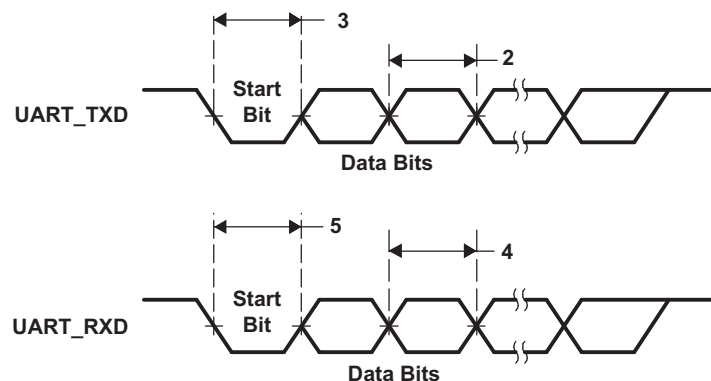

Figure 6-28. UART Transmit/Receive Timing
Table 6-31. Timing Requirements for UART Receive⁽¹⁾⁽²⁾ (see Figure 6-28)
(1) U = UART baud time = 1/programmed baud rate.
(2) These parametric values are measured at DV_{DDIO} = 3.3 V, 2.75 V, and 2.5 V
Table 6-32. Switching Characteristics Over Recommended Operating Conditions for UART Transmit^{(1) (2)} (see Figure 6-28)